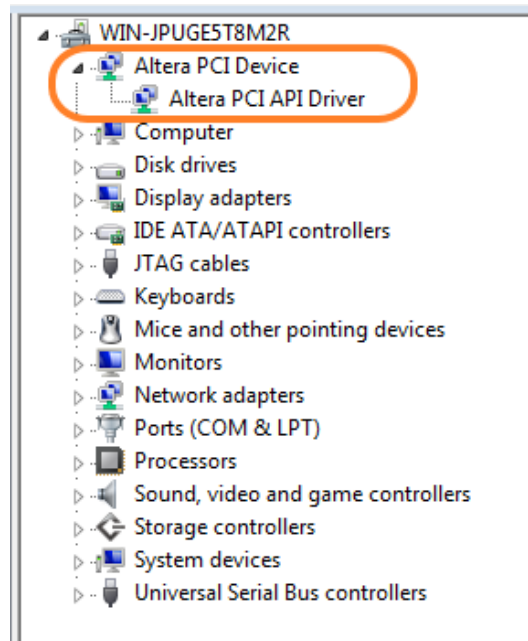

Figure 7-7 Altera PCI API Driver in Device Manager
9. Once the driver is successfully installed, users can see the **Altera PCI API Driver** under the device manager window, as shown in **Figure 7-7**.